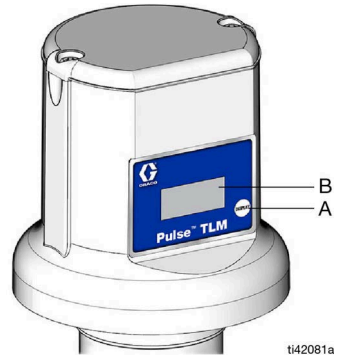

FIG. 2
2. Press and hold the Display button (A) until the display (B) reads REGISTER, then release (FIG. 2). This may take up to 20 seconds.